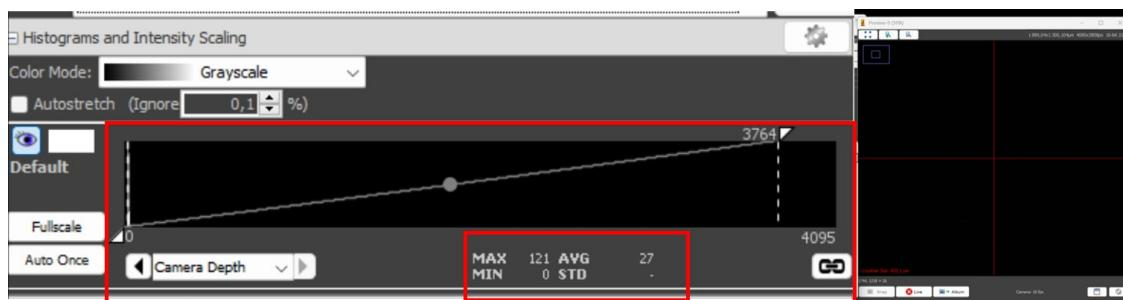

Figure 39: Example of an image where exposure time and/or LED intensity should be increased.
16. If no image appears and the histogram is compressed to the left (Figure 39), increase the exposure time in milliseconds. A typical exposure range for fluorescence imaging on this system is between 100ms and 800ms.